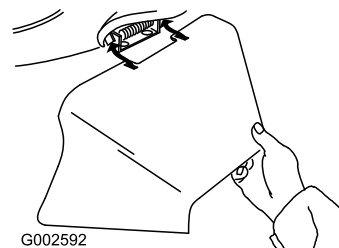

Figure 34
3. Install the side discharge chute and close the door onto the chute (Figure 34).